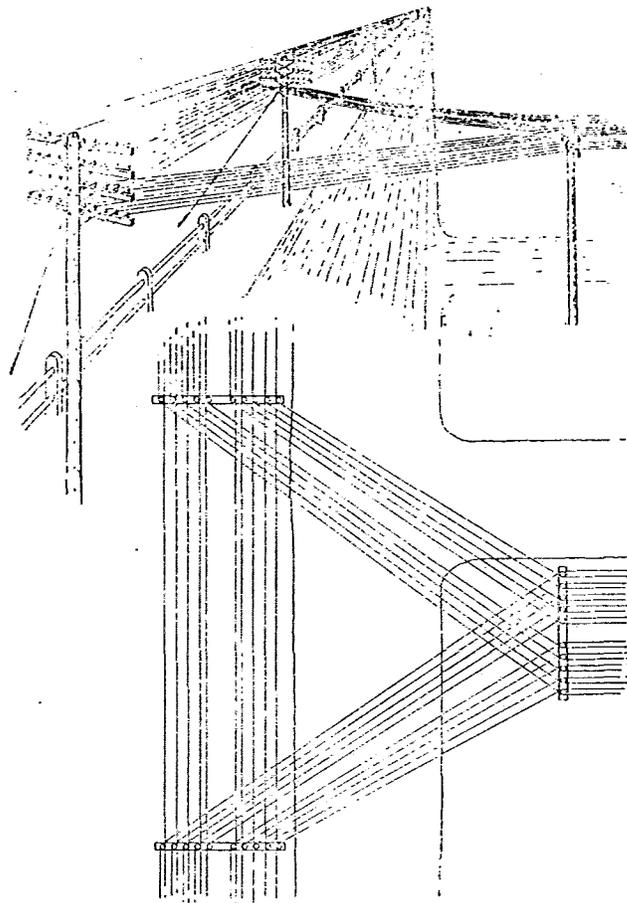

Fig. 2
2.02 Where circuits on side lead terminate in both directions on main lead, construct the termination as shown in Fig. 2.